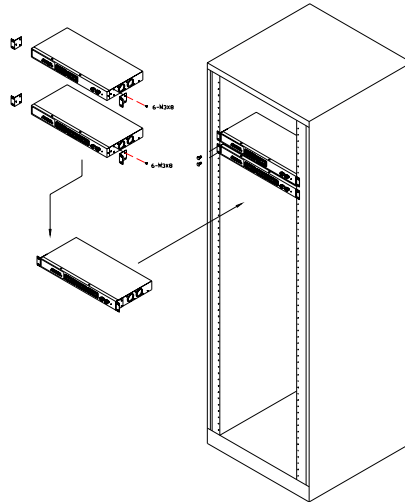

Fig. 2-2
- ⇒ Screw the mounting accessory to the front side of the switch (See Fig. 2-2).